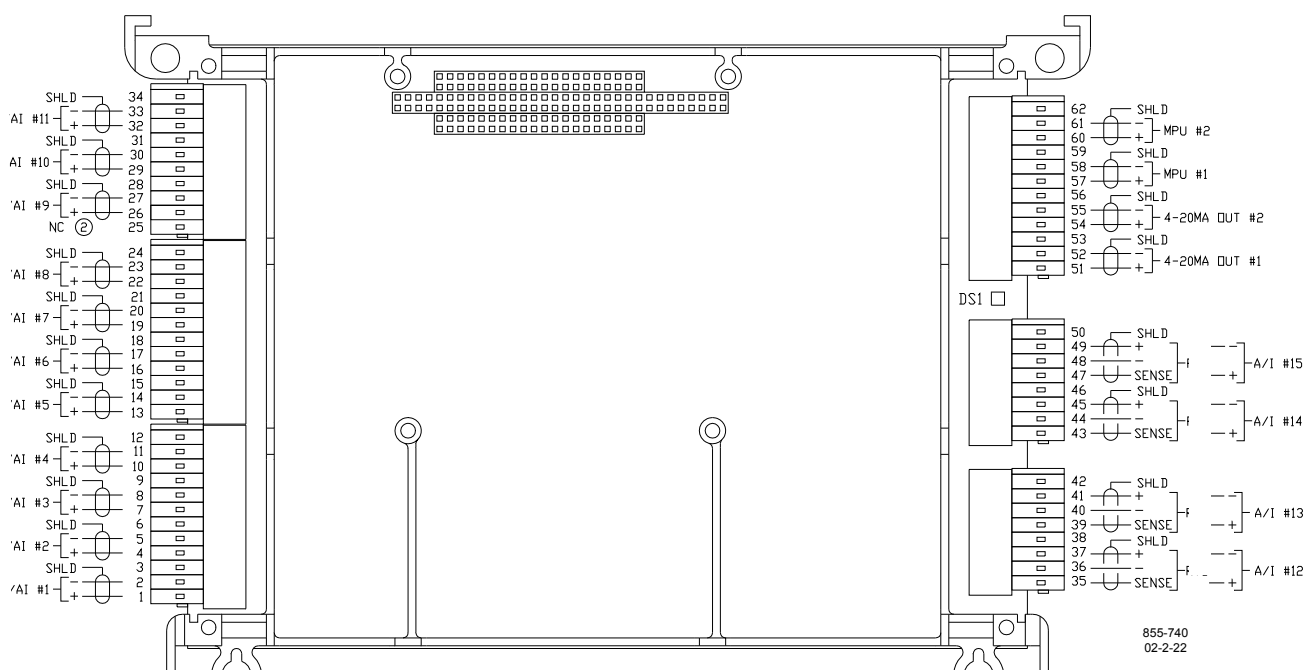

Figure 5-1. Atlas-II Analog Combo Board Connections
- Refer to Figures 5-1, 5-2, and 5-3 for analog input wiring.
- Refer to Figure 5-1 for analog output wiring.